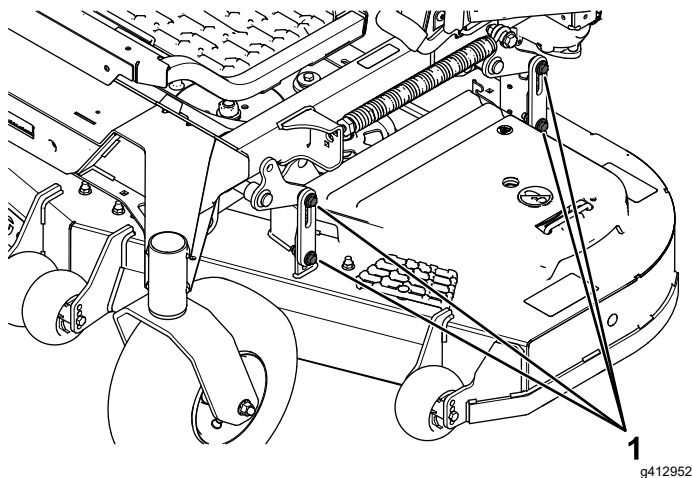

Figure 86
16. Loosen the bolts (Figure 86) on all 4 corners and ensure that the mower deck is sitting securely on all 4 blocks.